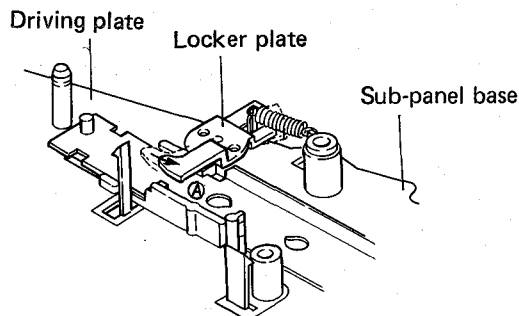

Fig. 9-6 Cam assembly attachment
The cam assembly is attached by letting the lock plate go in the direction ① as shown in Fig. 9-6.